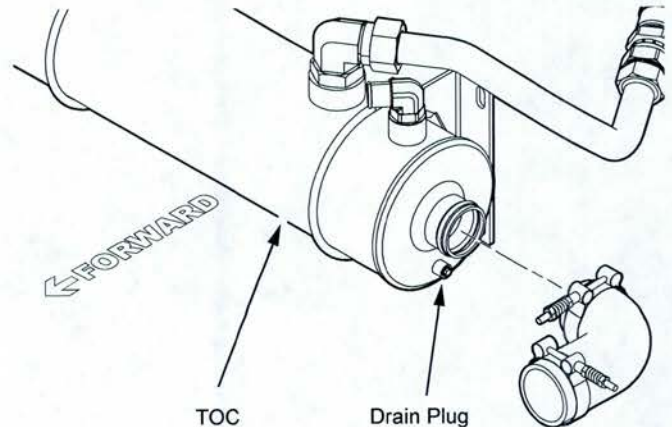

**Figure 2**
- Remove the coolant bypass fitting from the TOC. Remove and discard the O-rings from the fitting and set the fitting aside for reinstallation (see Figure 2).
**Note:** Pay particular attention to the orientation of fittings, for reinstallation. Remove the O-rings from the fittings and discard (see Figure 2).